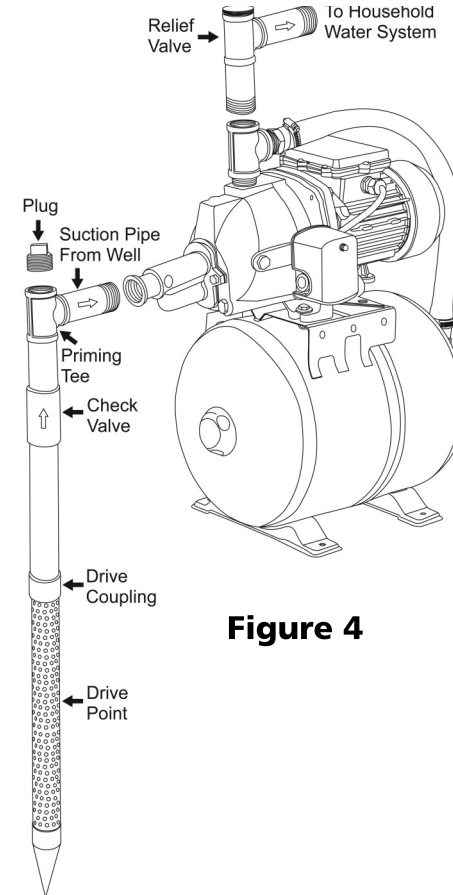

Figure 4
4. Install a priming tee with a plug on the suction pipe from the water source as shown in Figure 4. An inline check valve should also be installed on the suction line going to the pump. Install a union or other fitting that will allow the pump to be easily disassembled from the piping for easy servicing. Make sure Teflon tape or pipe joint compound is used on all joints.